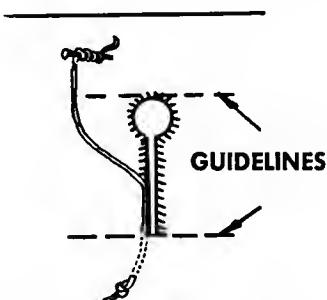

Fig. 237. Padding the buttonhole.
- C. With a knot at the end of the foundation cord, insert it  $\frac{1}{4}$  to  $\frac{3}{8}$  in. from the bar end of the buttonhole (Fig. 237). Bring the cord up at the bar
- D. Lay the foundation cord along the cut edge bringing it toward the eyelet end. Wind excess cord around a pin inserted near the eyelet end (Fig. 237).